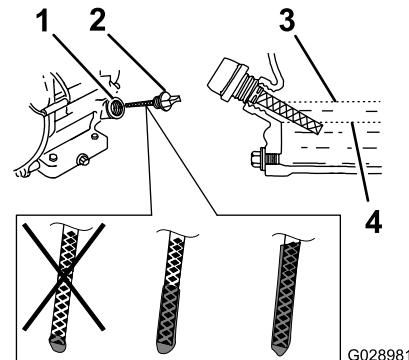

Figure 42
1. Remove the dipstick (Figure 42) and slowly pour oil into the fill hole until the oil reaches the upper-limit mark (bottom edge of the oil-fill hole) on the dipstick.